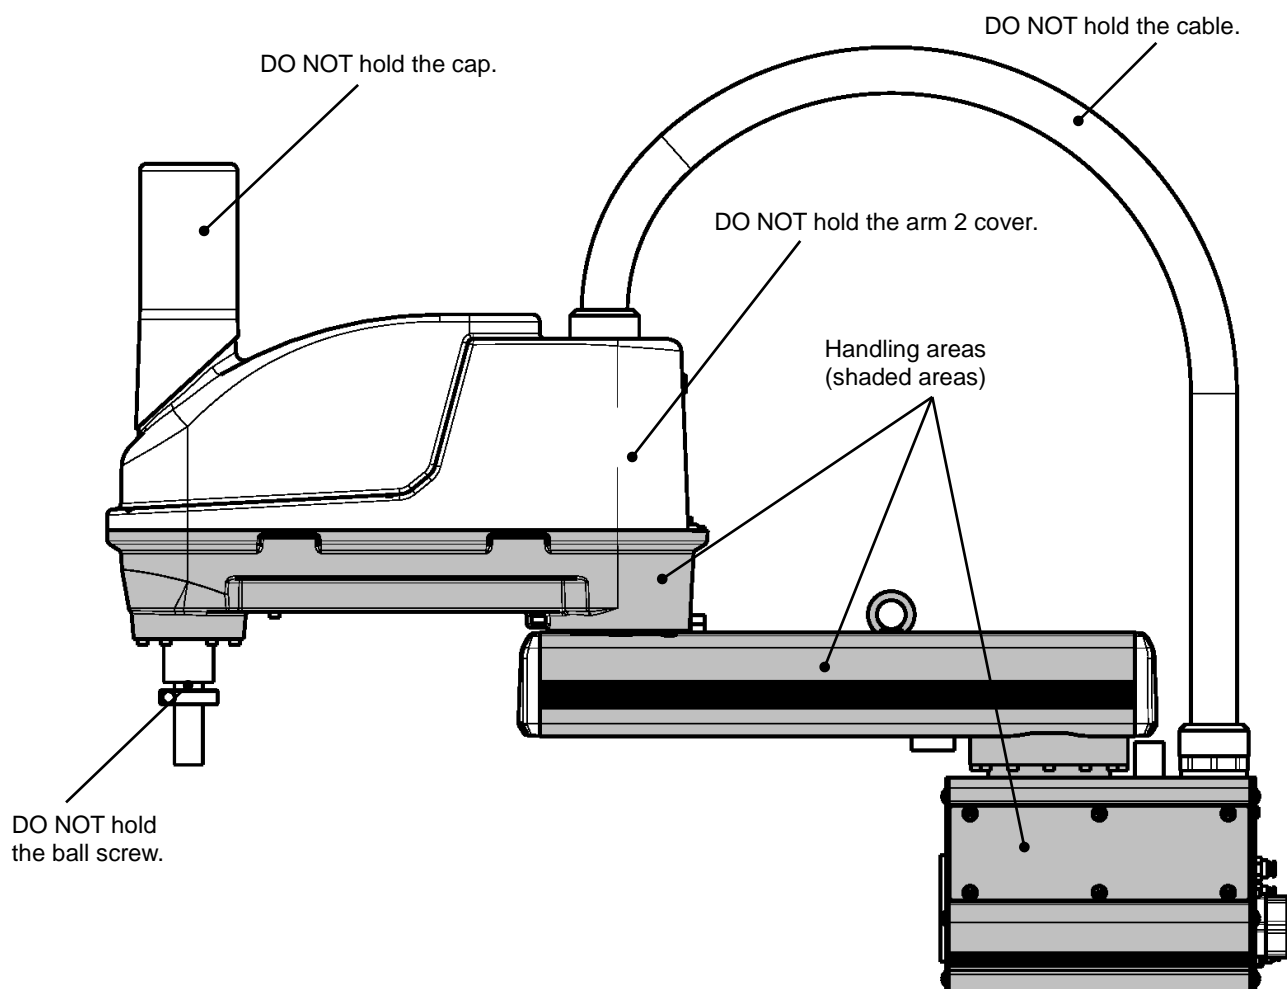

Fig. 2.6 Robot handling prohibited areas
- When lifting up the robot by workers, hold the shaded locations by hands, as shown in Fig. 2.6. If the ball screw spline shaft is held by hands, an unusually large force is exerted, resulting in a malfunction.
- The work should always be performed by two (2) or more workers.